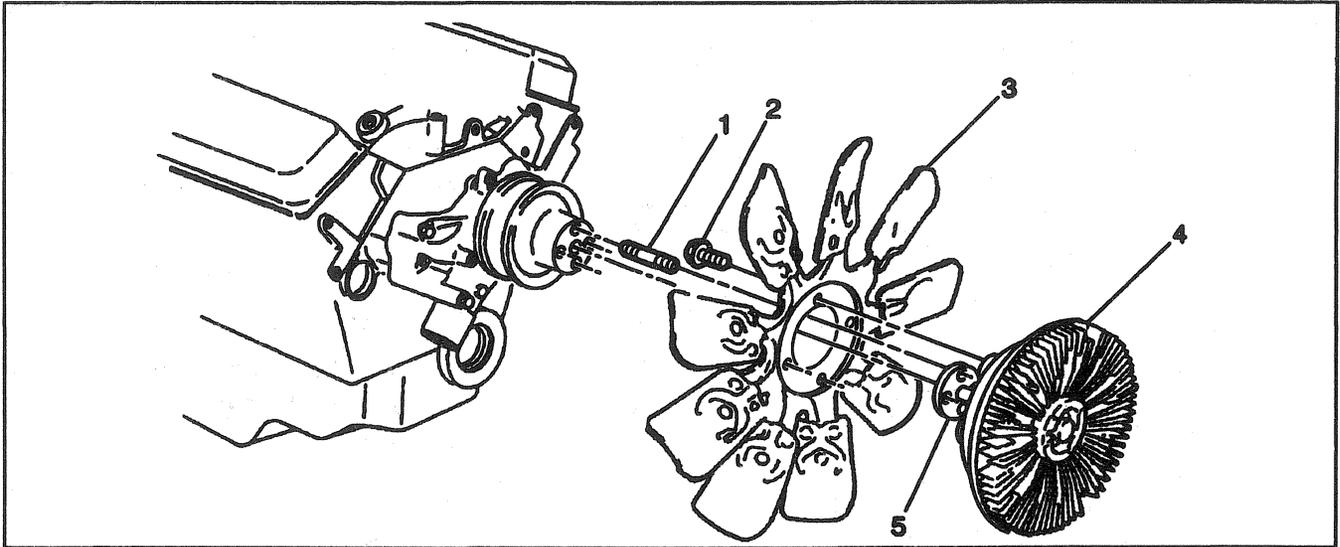

Figure 21—Radiator Fan and Fan Clutch (7.4L and Diesel Engines)
Remove or Disconnect (Figure 21)
**Install or Connect (Figure 21)**